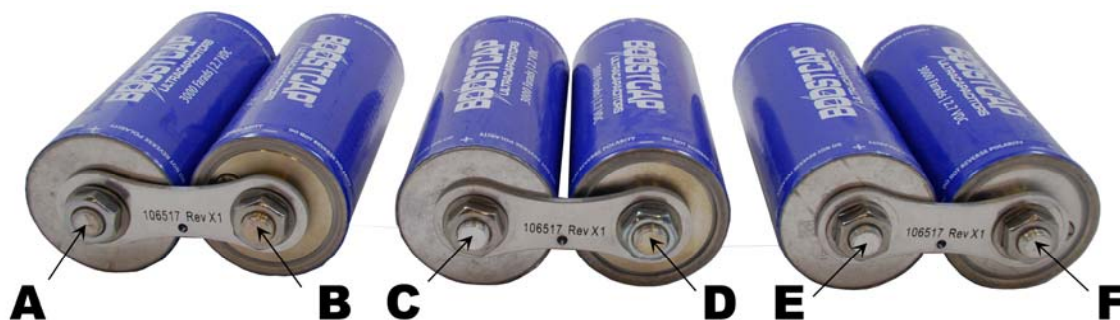

Figure 5
3.2.4 Repeat steps 3.2.1 to 3.2.3 on one side of each of the remaining pairs of cells. (Figure 5, A - F)